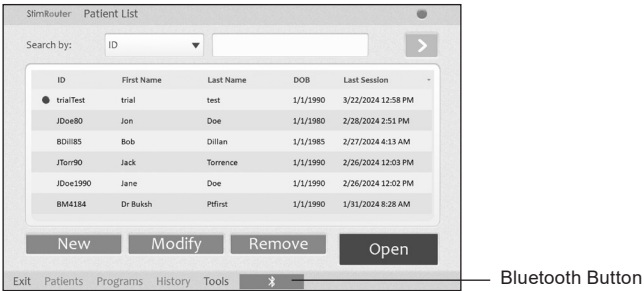

Figure 6-4: Bluetooth Icon on the Patient List Screen
3. Press the blue “Bluetooth” button on the bottom of the Patient List screen in the clinician programming software. The External Stimulator and Clinician Programmer will connect. **See Figure 6-4.**